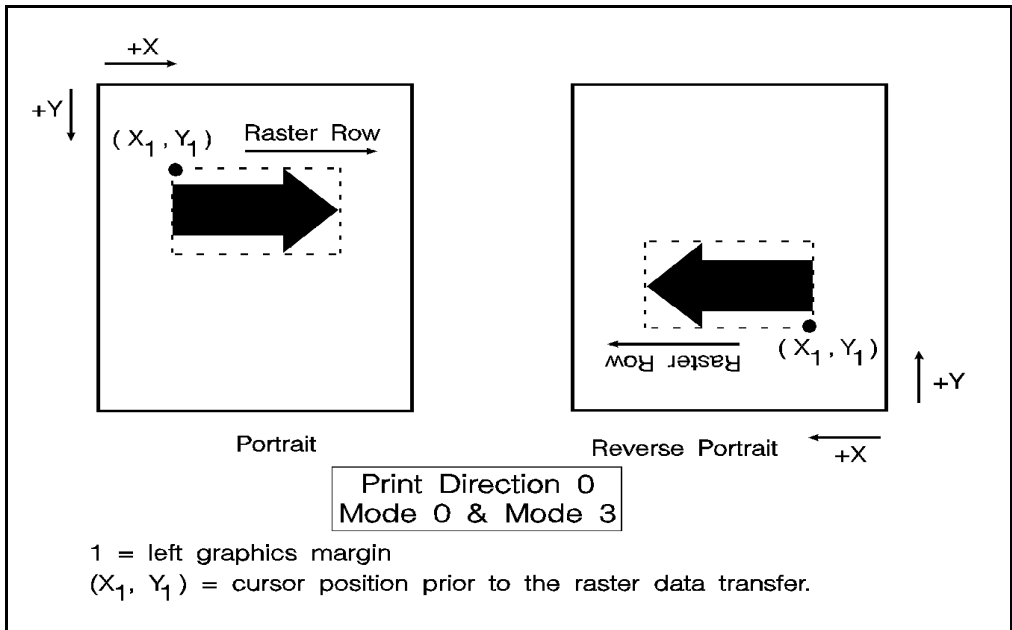

Figure 6-3 Raster Graphics Presentation Mode for Portrait Orientation
- A value of **3** indicates that the raster graphics will be printed along the width of the physical page, regardless of logical page orientation. In portrait orientation, a raster row is printed in the positive X-direction of the PCL coordinate system and a subsequent raster row is printed beginning at the next dot row position in the positive Y-direction. In landscape orientation, a raster row is printed in the positive Y-direction of the PCL coordinate system and a subsequent raster row is printed beginning at the next dot row position in the negative X-direction. Figures 6-3 and 6-4 illustrate presentation modes 0 and 3.